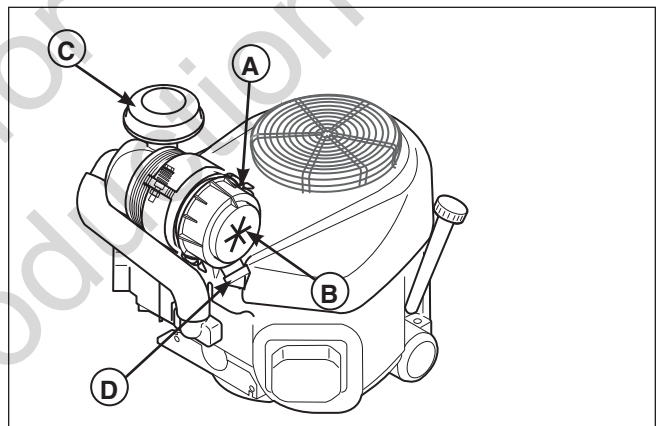

Figure 13. Changing the Air Filter
1. Unfasten the two retaining clamps (A, Figure 13) and remove the cap (B) from the air cleaner body (C.)